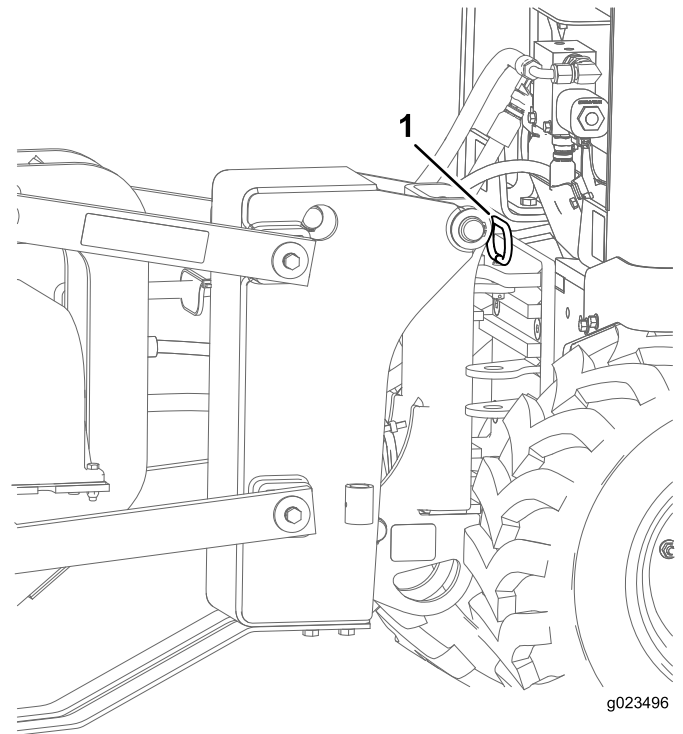

Figure 7
Note: This lets the obstacle move to one side or allows the plow blade to move around the obstacle. Be sure that the plow swing lock is removed (Figure 7).
2. As you pass over the hole with the machine, stop the plow vibration and insert the plow-swing lock (Figure 7).